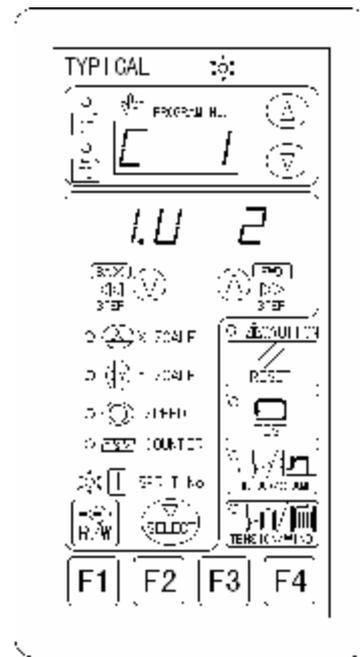

Fig. 5-29
3. When program step 1 is completed in sewing, operate keypad menu display to automatically switch to program step 2 (as shown in Fig. 5-29). Then sewing can